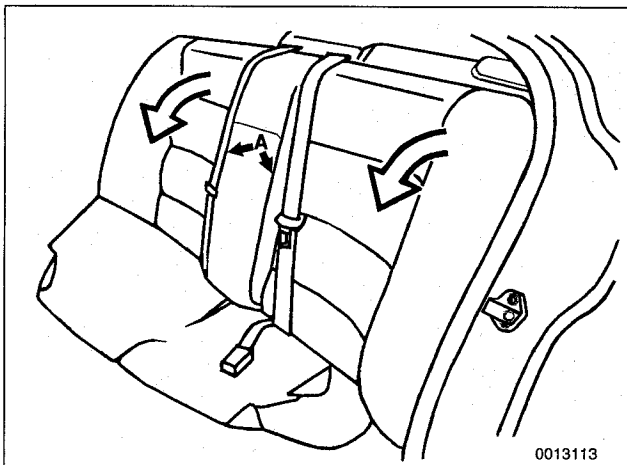

Fig. 6. To remove rear seat, remove bottom cushion. Remove bolts (A) behind center armrest. Slide seat back up off holders, then forward.
3. Slide seat back up off holders. Then slide to side to clear seat belts. See Fig. 6.